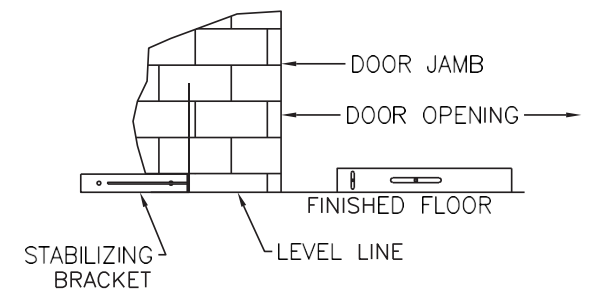

FIG 4
- * Place Bracket on its side, flush to wall along top of level line, extending away from door opening (**Figure 4**)